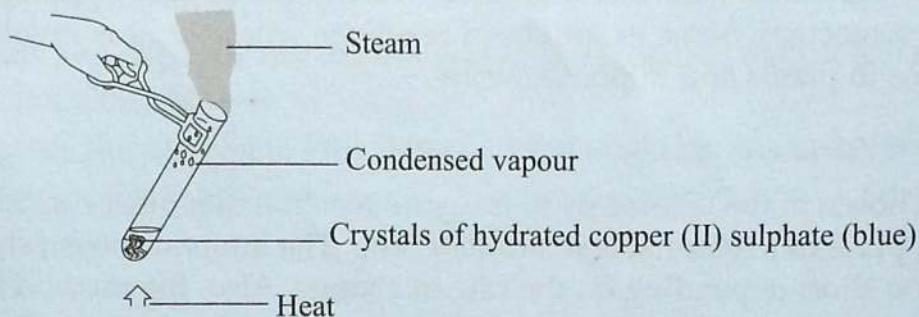

Fig. 1.14: Heating hydrated copper (II) sulphate
1. Put two spatula endfuls of hydrated copper (II) sulphate into a test tube.
2. Heat the test tube gently while holding the test tube using pair of tongs as shown in Fig. 1.14 below. Stop heating the contents when the crystals have changed colour. Record this colour in your notebook.